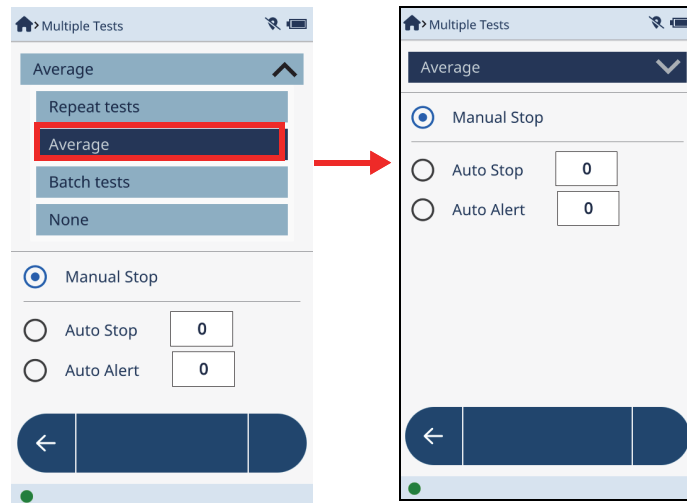

Figure 2-10 Averaging dialog box (right)
3. In the menu on the **Multiple Tests** screen, tap the **Average** to display the available averaging options (see Figure 2-10 on page 31).